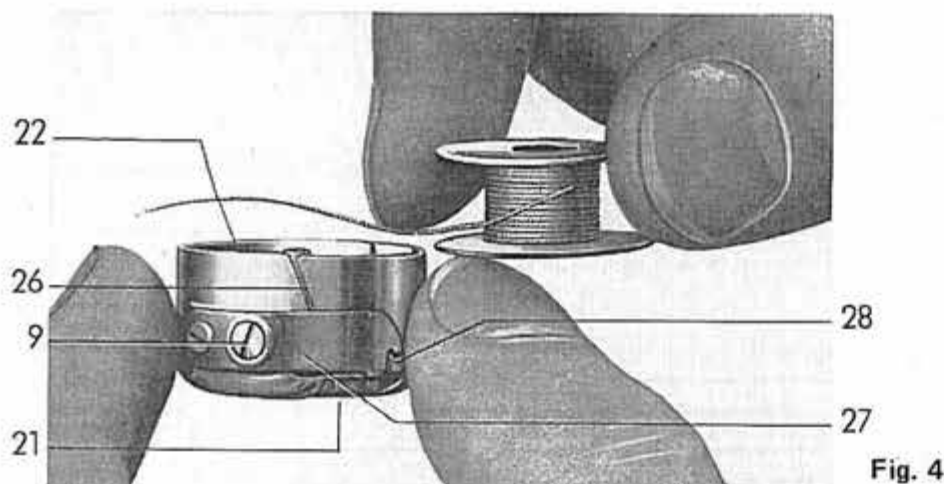

Fig. 4
#### 4. Removing bobbin case top with bobbin (fig. 4)
### 6.1. Threading the hook thread (figs. 4 and 4a)
With thumb and index finger of the left hand, grasp seize the latch 21 (fig. 4) so that the bobbin is held in the case by the latch, push the case onto the centre pin of the bobbin case base so that the end of the latch faces the operator. Press the bobbin case firmly onto the base with the thumb. If the bobbin case is not closed properly, this might result in damage to the case or to the needle.
- 8.2. **Hook thread.** The tension of the hook thread is regulated by tension spring regulating screw 9 (fig. 4) on the bobbin case. Turn the screw clockwise to increase the tension and counter-clockwise to reduce it.